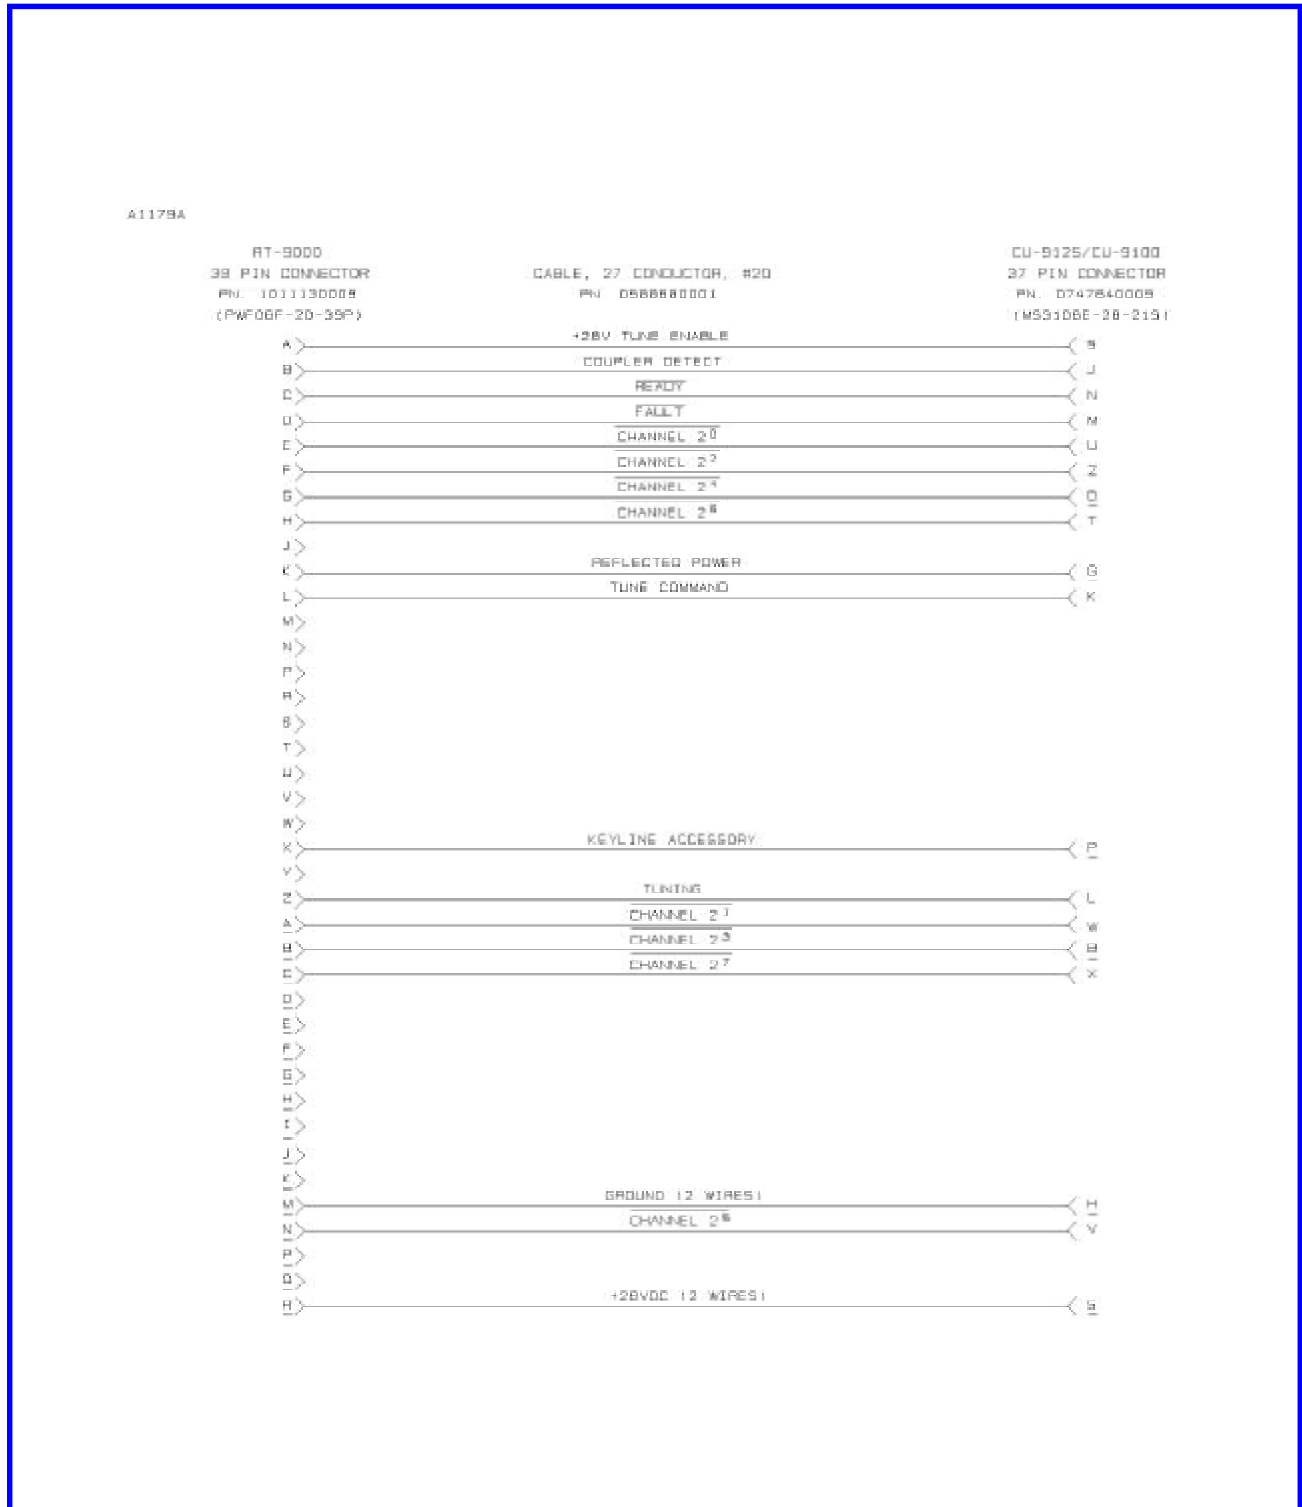

Figure 2.9 Wiring Diagram, Control Cable Assembly (8076004195).
12. Follow an identical procedure to connect the other end of the cable to the proper pin as shown in Figure 2.9.